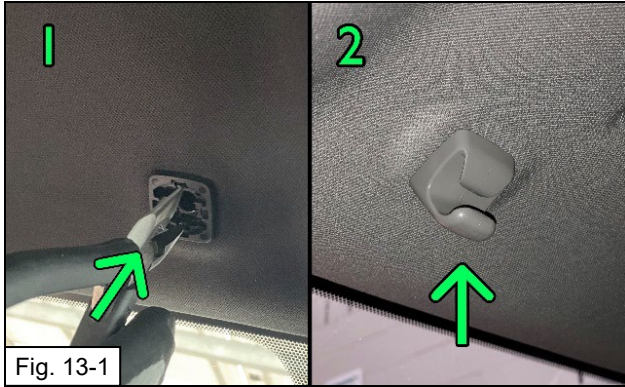

Fig. 13-1
- (a) Insert the clip bases on both sides of the map light console, they should snap securely into place. (Fig. 13-1 L)
- (b) Insert the visor clips by placing them in the correct orientation and pushing them directly up into the bases. (Fig. 13-1 R)